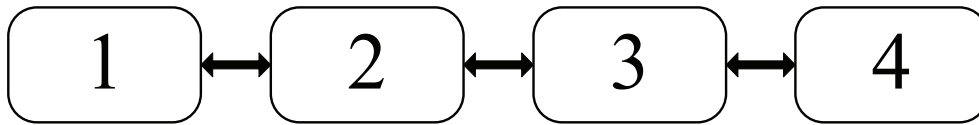

Figure 12-3 Cursor Moving Mode: 1×4
- When the four displays are arranged in a line, select “1×4”. You can move the cursor from current display to its neighboring displays, as shown in Figure 12-3.